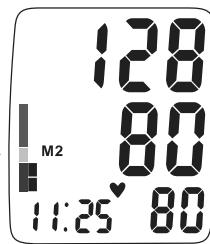

Fig.8
5.Press button 'M1' or button 'M2' to record the reading in corresponding memory. For example, if button 'M2' is pressed, the display will show as Fig.8. If the user does not press button 'M1' or 'M2' or press button 'O/I', the reading won't be recorded;